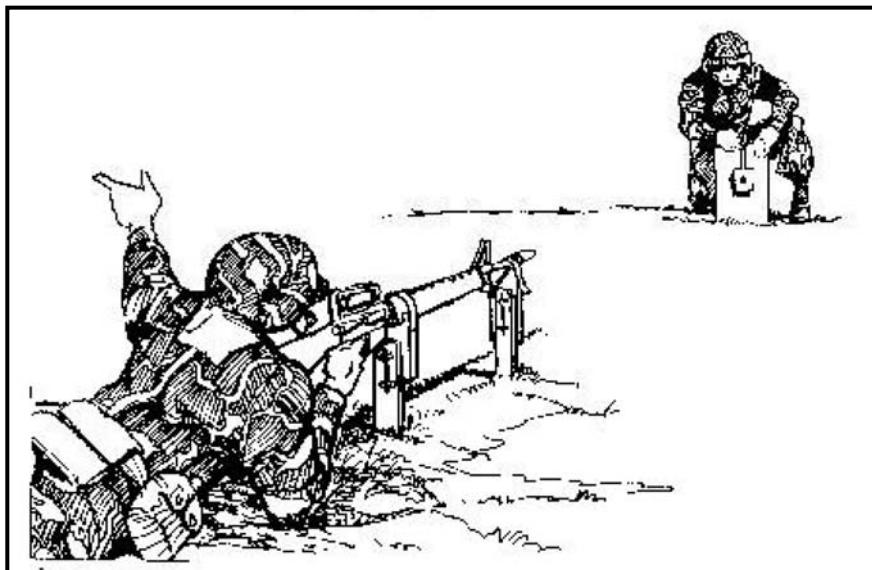

Figure A-5. Target-box exercise.
(6) **Target-Box Exercise.** The target-box exercise checks the consistency of aiming and placement of three-round shot groups in a dry-fire environment (Figure A-5, page A-6).